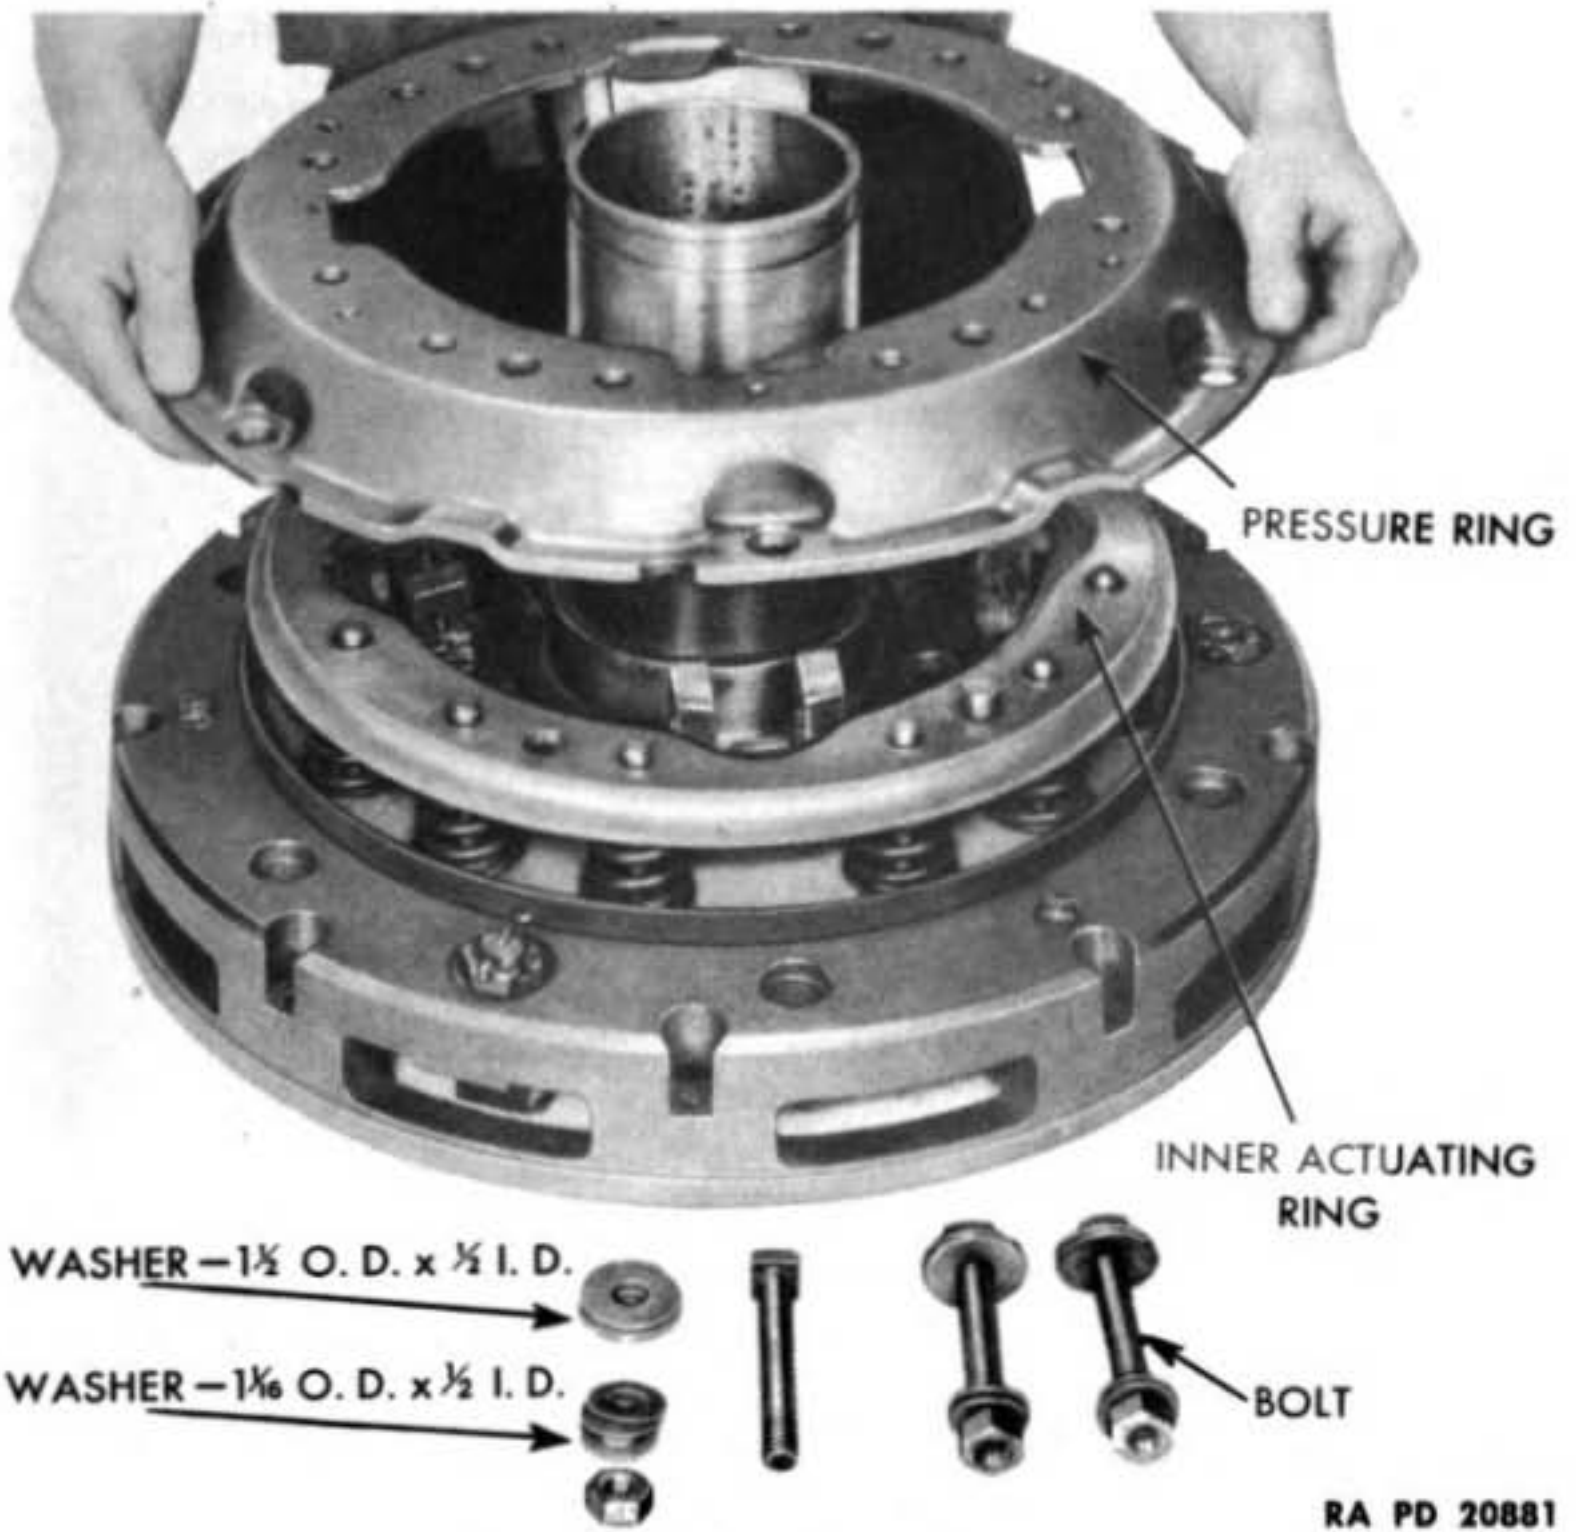
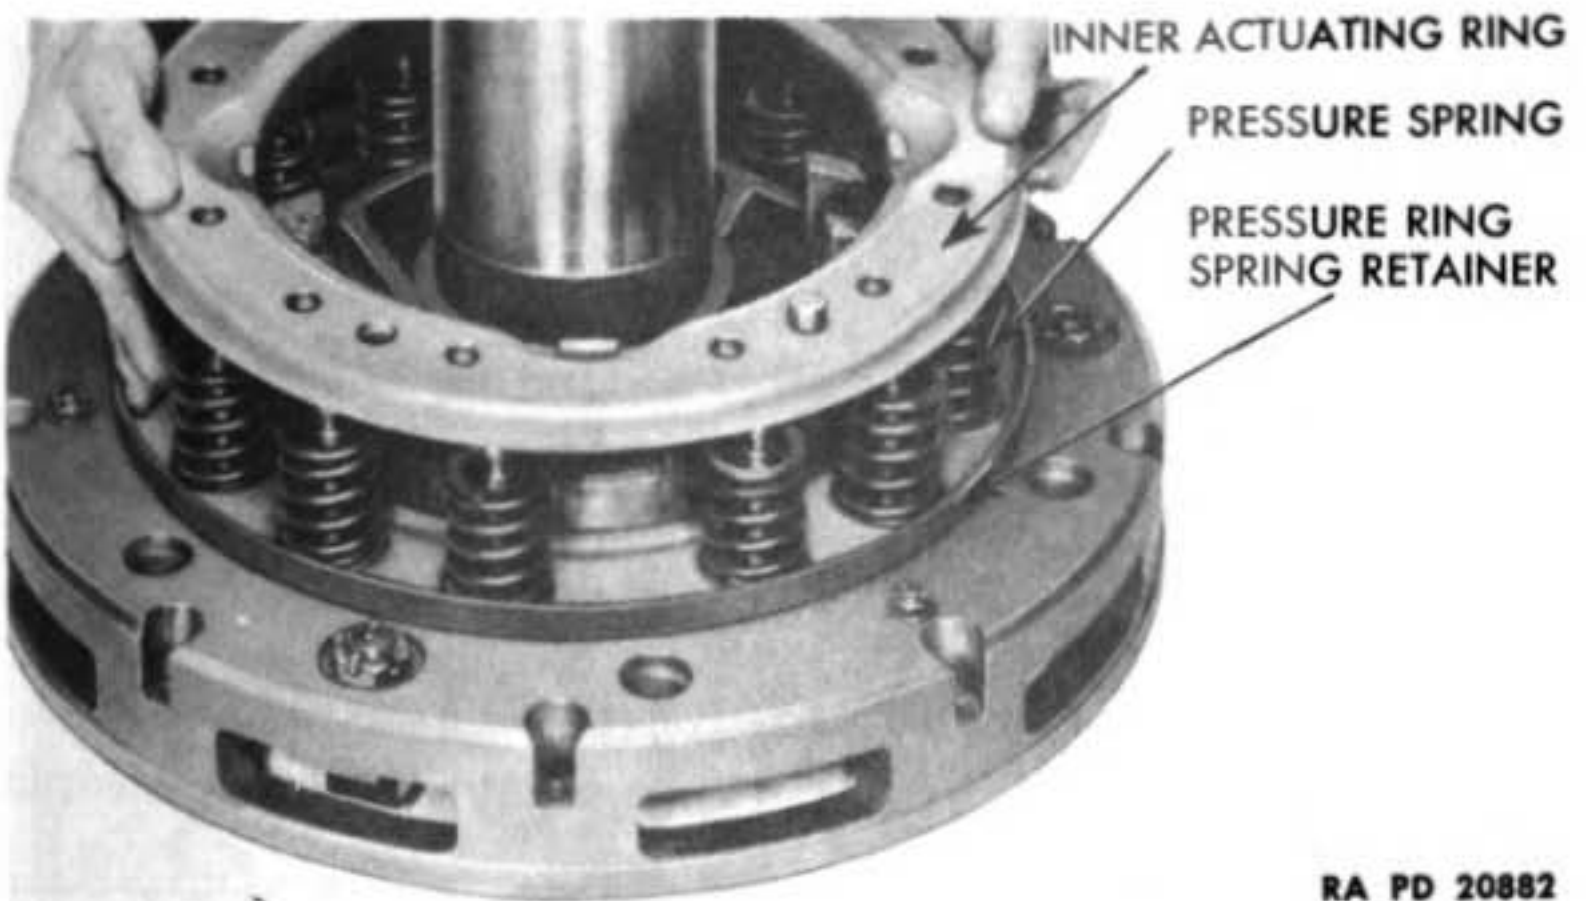

Figure 151 — Removing Clutch Pressure Ring
Figure 152 — Removing Clutch Inner Actuating Ring
f. **Remove Clutch Pressure Ring and Pressure Springs.** Remove three bolts with six flat washers and nuts clamping pressure ring to back plate. Lift pressure ring from inner actuating ring (fig. 151). Lift inner actuating ring from retainer pins and pressure springs (fig. 152). Remove 12 pressure springs from retainer pins and pressure ring spring retainer. Remove pressure ring spring retainer from back plate, and remove 12 spring retainer pins.
b. Install Pressure Spring Retainer, Pressure Springs, and Inner Actuating Ring (fig. 152). Install 12 retainer pins in spring retainer, and place retainer in position on back plate. Place 12 pressure springs in position on spring retainers. Place inner actuating ring in position on retainer pins and springs so that four depressions in ring line up between cam lever supports on back plate.
c. Install Pressure Ring and Cam Levers (figs. 150 and 151). Place pressure ring on inner actuating ring so that inside slots line up between cam lever supports on back plate (fig. 151). Use three cap screws ($\frac{1}{2}$ -20 NF-2 x $3\frac{3}{4}$ with $3\frac{5}{8}$ thread length), three nuts ($\frac{1}{2}$ -20NF-2) (BBBX1E), six heavy plain washers ($\frac{1}{2}$ I.D. x $1\frac{1}{2}$ O.D.), and nine plain washers ($\frac{1}{2}$ I.D. x $1\frac{1}{16}$ O.D.) (BEBX1M), to compress pressure springs. *NOTE: Transmission oil cooler stabilizing bolt (A331641) can be used for this purpose.* Place two large washers on bolts, and insert bolts through pressure plate stud holes in back plate and through pressure ring, with bolt heads on inside of plate. Place three small washers on bolts. Install nuts on bolts, and tighten them until pressure ring contacts back plate. Place four cam levers in position between supports on back plate, and install pins and cotter pins (fig. 150). Insert pins so that they all point in same direction, and with flat side on head against shoulder in support to prevent them from turning.